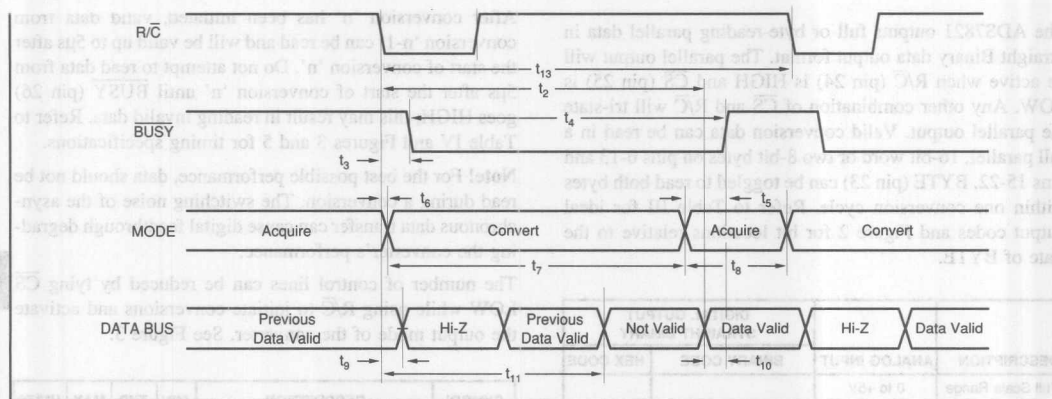

FIGURE 3. Conversion Timing with Outputs Enabled after Conversion (\overline{CS} Tied LOW.)
The ADS7821 will begin tracking the input signal at the end of the conversion. Allowing 10 μ s between convert commands assures accurate acquisition of a new signal. Refer to Table II for a summary of \overline{CS} , $\overline{R/C}$, and \overline{BUSY} states and Figures 3 through 5 for timing diagrams.
NOTE: (1) See Figures 3 and 4 for constraints on data valid from conversion "n-1".
After conversion 'n' is completed and the output registers have been updated, \overline{BUSY} (pin 26) will go HIGH. Valid data from conversion 'n' will be available on D15-D0 (pin 6-13 and 15-22). \overline{BUSY} going HIGH can be used to latch the data. Refer to Table IV and Figures 3 and 5 for timing specifications.
After conversion 'n' has been initiated, valid data from conversion 'n-1' can be read and will be valid up to 5 μ s after the start of conversion 'n'. Do not attempt to read data from 5 μ s after the start of conversion 'n' until \overline{BUSY} (pin 26) goes HIGH; this may result in reading invalid data. Refer to Table IV and Figures 3 and 5 for timing specifications.
The number of control lines can be reduced by tying \overline{CS} LOW while using R/\overline{C} to initiate conversions and activate the output mode of the converter. See Figure 3.